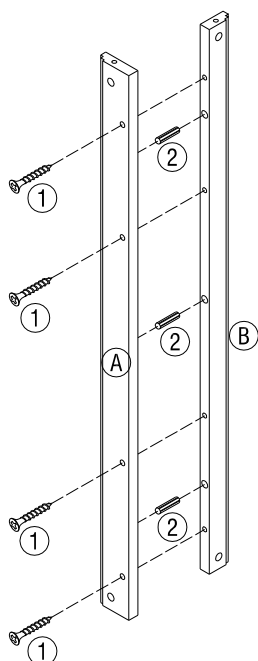

FIGURE 1
3. INSERT WOOD DOWELS (2) INTO PREDRILLED HOLES ON EDGE OF UPPER LEFT BACK RAIL (B) AND FIT INTO CORRESPONDING HOLES ON UPPER RIGHT BACK RAIL (A). INSERT LARGE FLAT HEAD WOOD SCREWS (1) THROUGH PREDRILLED HOLES ON UPPER RIGHT BACK RAIL (A) AND TIGHTEN INTO CORRESPONDING HOLES ON UPPER LEFT BACK RAIL (B). AS SHOWN IN FIGURE 1.